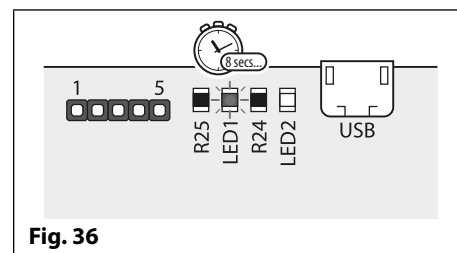

Fig. 36
3. Switch the power back ON to the GSM module, initially the red LED (LED1) will switch ON for approximately 8 seconds. The red LED (LED1) will then start to flash, as shown in **Fig.36**;